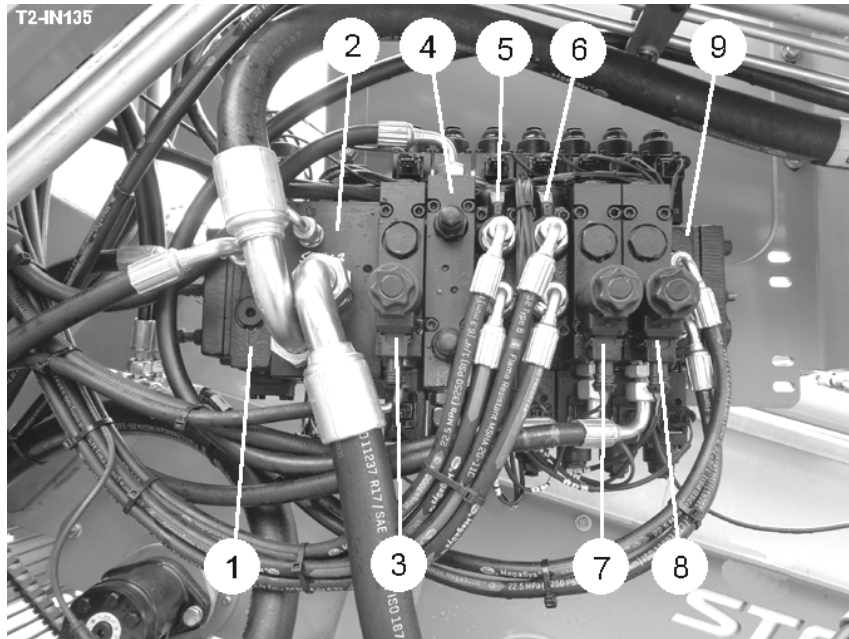
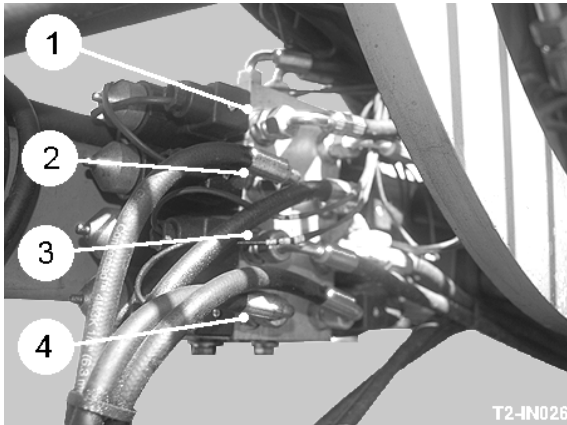
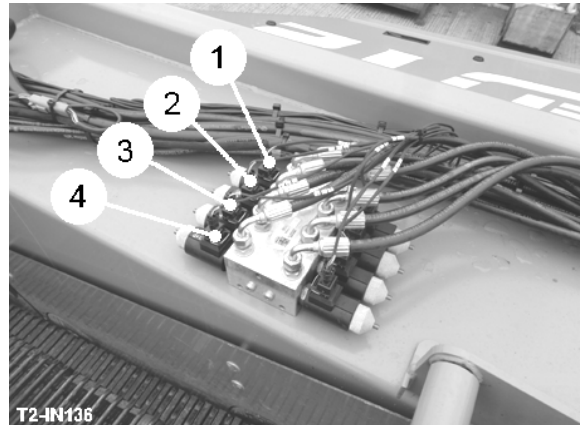

Fig 24
Fig 25
Fig 26
The hydraulic ram services and discharge elevator/spreader drives are supplied with hydraulic oil from the tractor. A minimum supply of 50 litres/minute is fed through a pressure filter into the inlet section of the auxiliary valve bank (see fig 24). The system will accept up to 80 litres/minute maximum. The flow rate of all the valves are proportionally controlled from the electrical system and are adjustable via the touch-screen. Additional ram services are powered by the master valve section (item 9, fig 24) via slave valves. The slave valve (see fig 25) operates the drawbar, web split, machine level and wheel tracking rams. The slave valve (see fig 26) operates the 1st and 2nd separator angles and clod roller heights. The elevator valve section (item 1, fig 24) powers the discharge web and spreader motors. The elevator valve has priority over the ram service valves. The flow rate for the spreader is adjustable independently up to the flow set for the elevator. The return oil flow from the valves and motors recombines and is returned to the tractor, ideally through a low back pressure or free-flow return coupling. No separate relief valve is fitted to the auxiliary circuit, the system relies totally on the tractor relief valve.